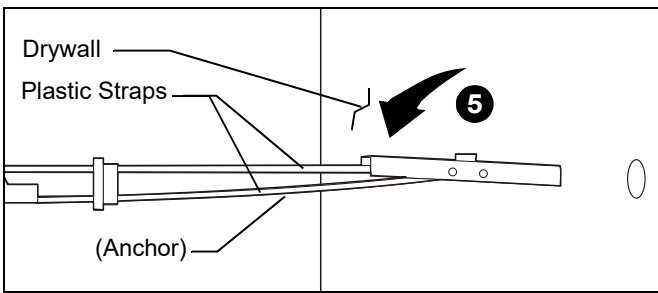

Figure 4
5. Hold metal channel on anchor flat alongside plastic straps and slide channel through hole. (See Figure 4)